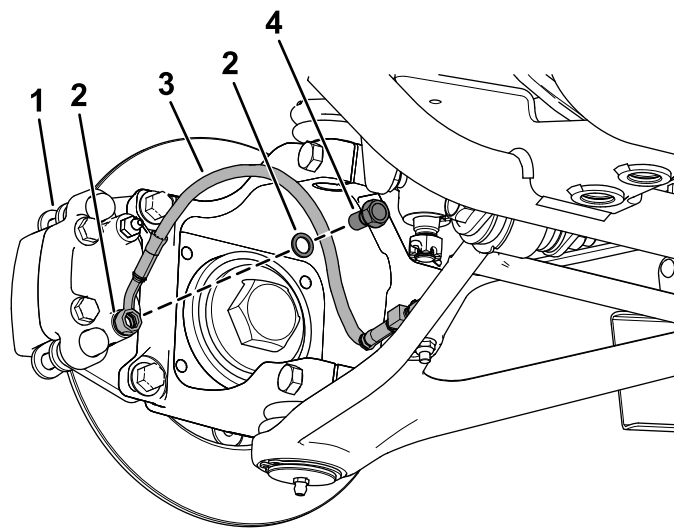

**Figure 10**
7. Install the bleed screw into the top hole of the brake-caliper assembly (Figure 10).